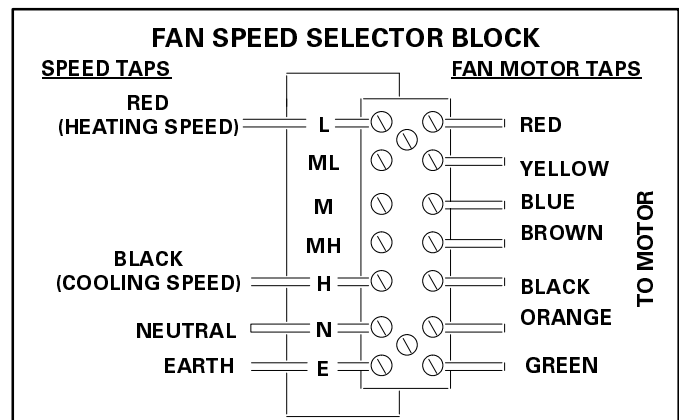

FIGURE 19
- 6 - Remove wire and reposition to desired speed. (L, ML, M, MH, H). Refer to figure 19.